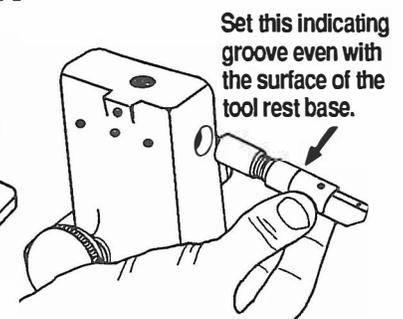

Fig. A-4
5. Insert the cutter support (58) into the big hole located at the front of the tool rest base (37) until the indicating groove is flush with the front of the base, as seen in Fig. A-4.